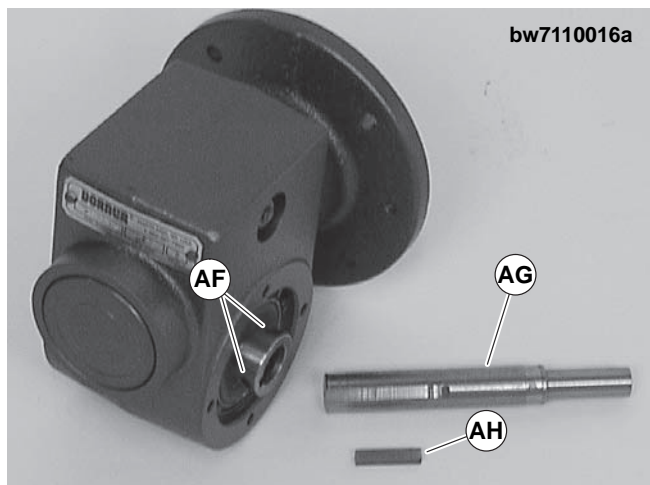

Figure 23
8. Loosen six (6) set screws (Figure 23, item AF). Remove drive shaft (AG) and key (AH).
10. Replace the original shaft components into new gear reducer (see Figure 23). Tighten set screws (AF) to 26 in-lb (3 N-m).